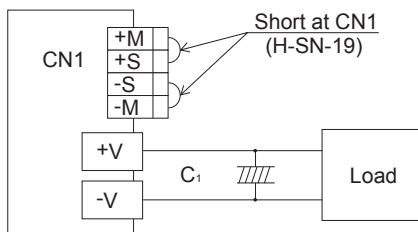
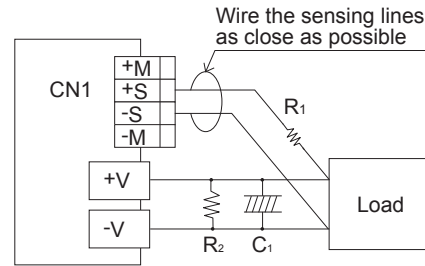

Fig.2.4 When not using remote sensing function
Fig.2.5 When using remote sensing function
■ Please see Fig.2.4 if you do not use the remote sensing function. Please see Fig.2.5 if you use the remote sensing function.